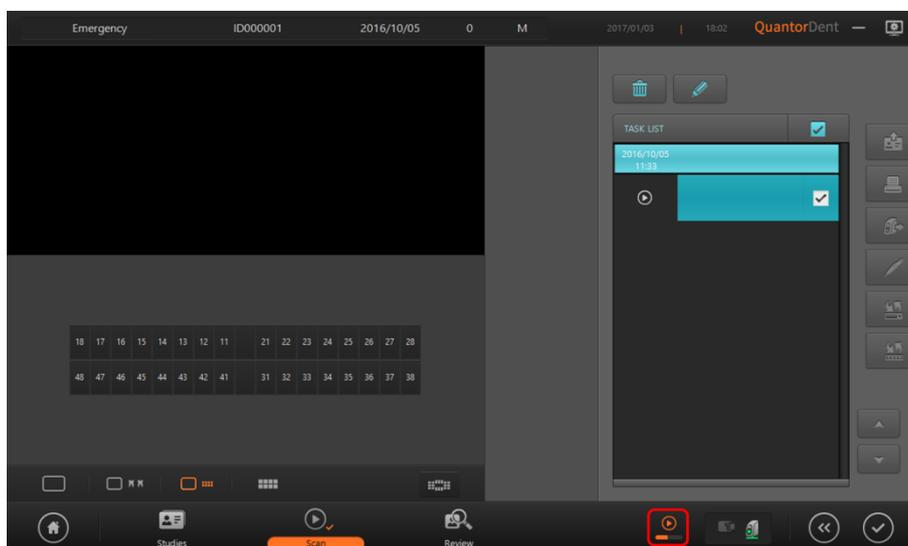

Figure 6.20 Scanning
10. The image scanning process is displayed on the right side of the navigation bar as Figure 6.20. The Scanner LCD screen also displays the scanning process.